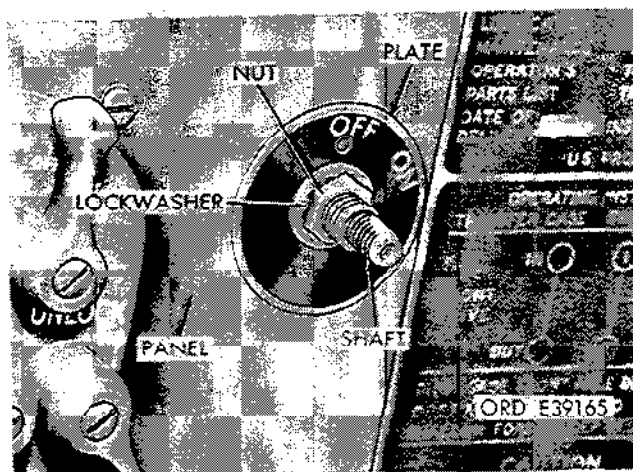

Figure 2-275. Remove ignition switch.
(3) Remove nut and lockwasher securing the ignition switch and switch nameplate to the dash panel (fig. 2-275). Push switch through dash panel and lower below dash panel.